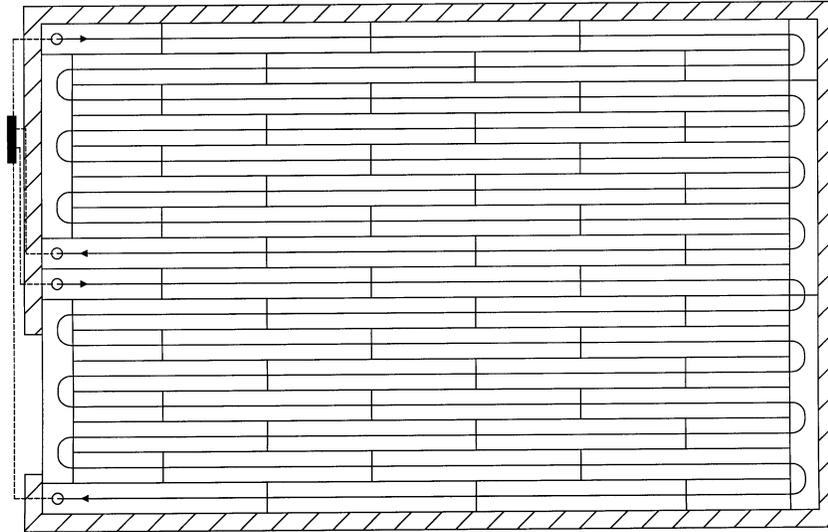
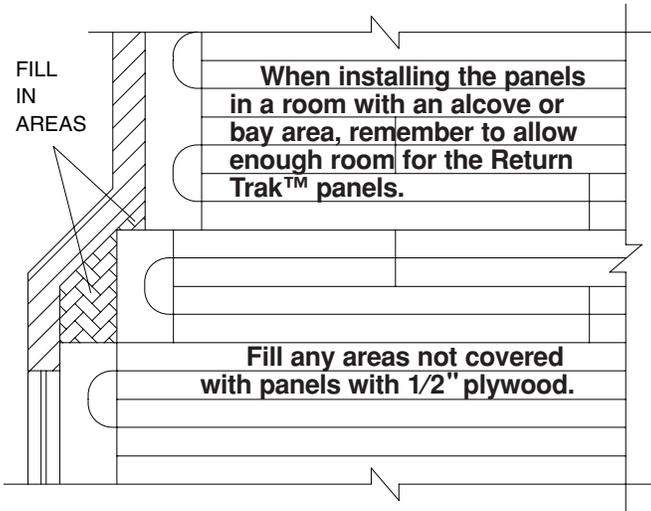

Figure 2A
Figure 8
Figures 2A and 2B show manifold locations in the joist cavity. The entire floor area is accessible.
Use 1/2" plywood or similar product to fill any small areas not covered by panels (see **Figure 8**). This will make for a completely level surface. When installing panels on a suspended wood floor with access from below, determine the locations of the supply and return holes to the manifolds (see **Figure 2A & 2B** on page 14).
**Note:** Leader length is crucial when calculating the number of loops for a given room. When calculating the amount of tubing that is required, remember to add the distance for the leaders length to and from the manifolds. Refer to the example given on page 2 of this manual. Also refer to **Figures 2A & 2B** on page 14.